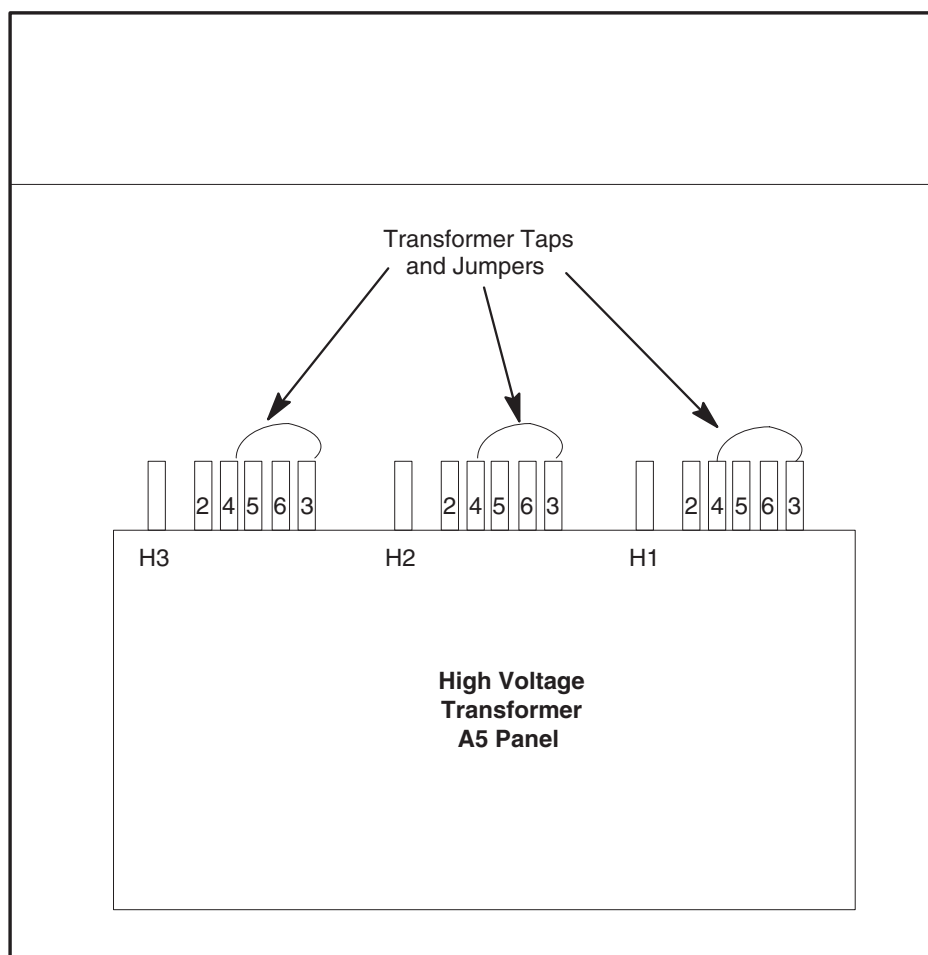

Figure 13-3 PDU 2133533 tap positions (Rear)
- 2.) **CPDU 213353:** Refer to Table 13-2, and Figure 13-3.